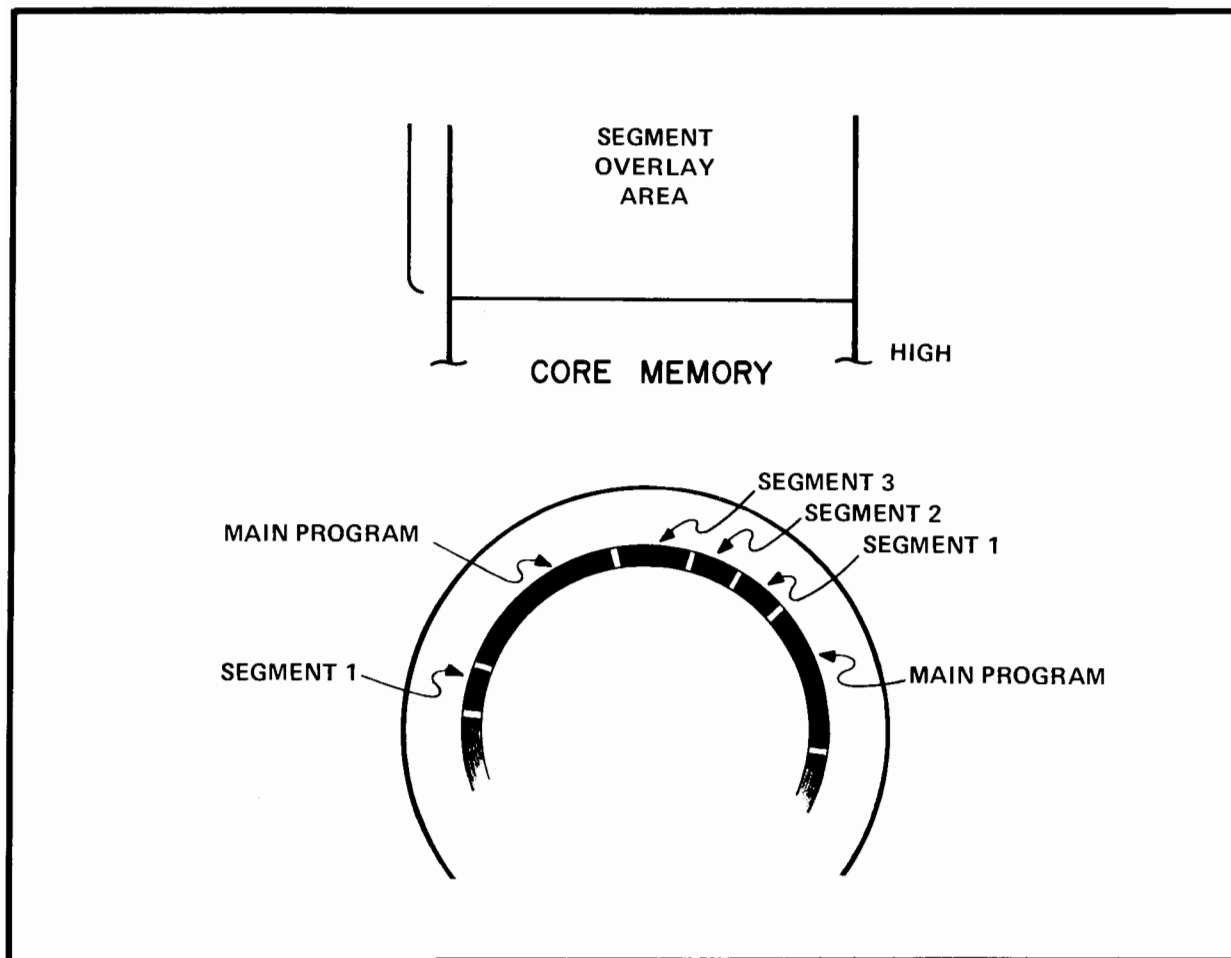

Figure 4-2. Main Calling Segment
Figure 4-2 shows how an executing program may call in any of its segments from the disc using the PROGRAM SEGMENT LOAD EXEC request (1-2). DOS-M locates the segment on the disc (3-4), loads it into core (5) and begins executing it. The segment may call in another of the main program's segments using the same EXEC request (6).